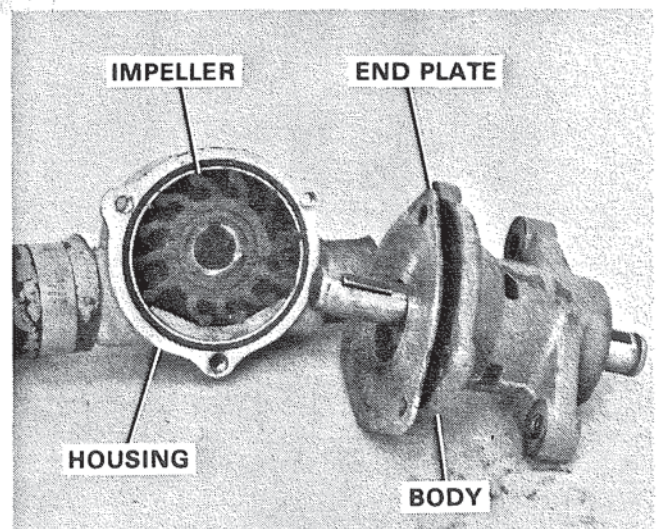

Figure 3. Separating Pump.
3. Separate housing from body after removing three (3) 1/4-20 hex head bolts. Figure 3.
- A. Remove impeller and end plate. Figure 3.